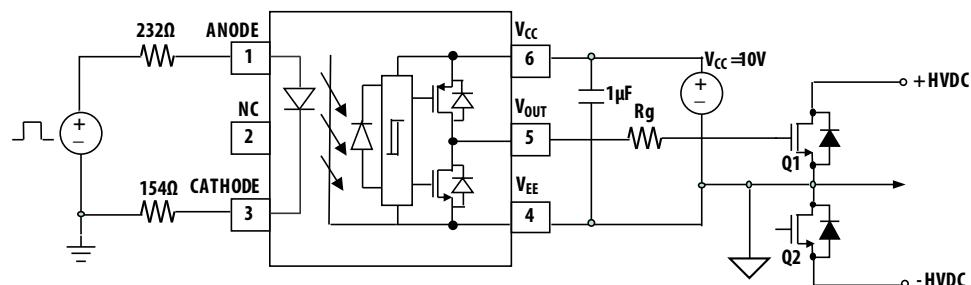

Figure 22. Recommended application circuit with split resistors LED.
The recommended application circuit shown in Figure 22 illustrates a typical gate drive implementation using the ACPL-P346.
Step 1: Calculate Rg minimum from the IOL peak specification. The MOSFET and Rg in Figure 22 can be analyzed as a simple RC circuit with a voltage supplied by ACPL-P346/W346.
The ACPL-P346/W346 includes a Propagation Delay Difference (PDD) specification intended to help designers minimize “dead time” in their power inverter designs. Dead time is the time period during which both the high and low side power transistors (Q1 and Q2 in Figure 22) are off. Any overlap in Q1 and Q2 conduction will result in large currents flowing through the power devices between the high and low voltage motor rails.